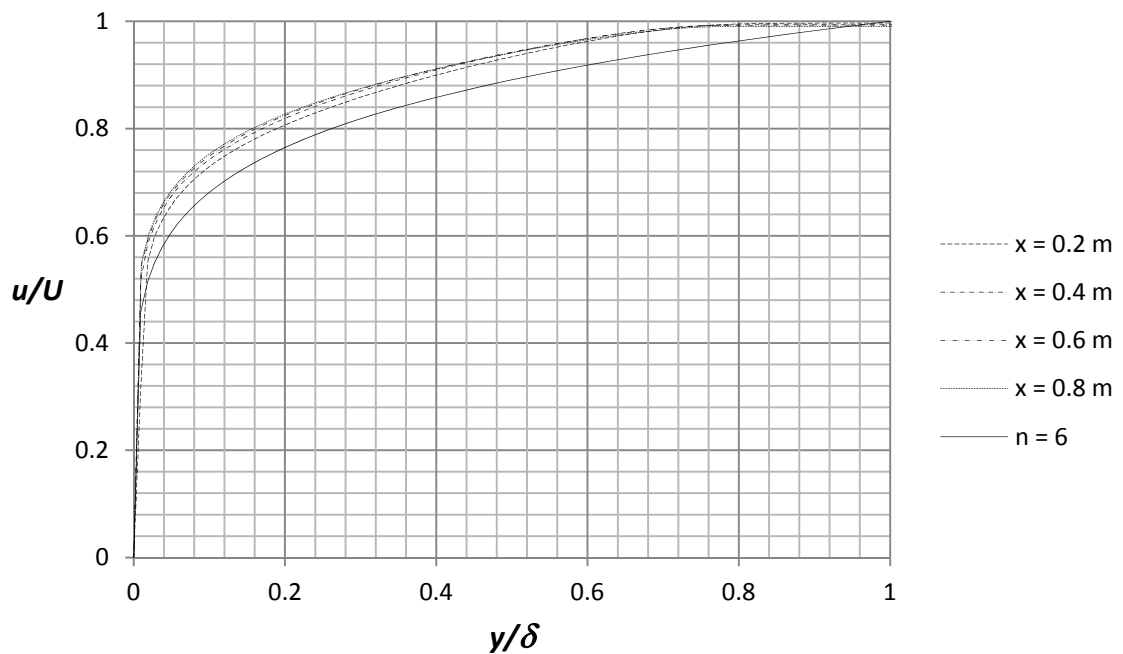

Figure 2.31 The same profiles as in figure 2.30a) compared with one-sixth power law for turbulent profile.
33. Place the file “xy-plot figure 2.31” into the **Local Disk (C:)/Program Files /SolidWorks Corp/SolidWorks Flow Simulation/lang/english/template/XY-Plots** folder to make it available in the **Template** list. Repeat step 24 and choose the sketch  $x = 0.2, 0.4, 0.6, 0.8$  m and check the box for **Velocity (X)**. Rename the xy-plot to **Comparison with One-Sixth Power Law**. An Excel file will open with figure 2.31. In figure 2.31 we compare the results from Flow Simulation with the turbulent profile for  $n = 6$ . The power –law turbulent profiles suggested by Prandtl are given by